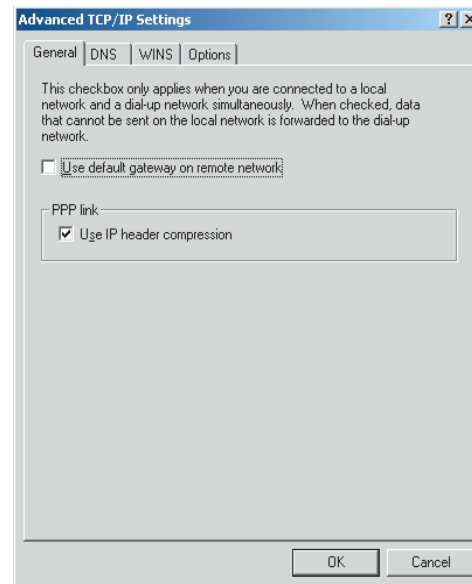

Figure 3.25: Windows 2000 Advanced TCP/IP Settings
- 14 Press the *Advanced...* button and configure the settings as shown in Figure 3.25. Press *OK* and *OK* again to return to the Main APT_SERIAL Properties dialog box.